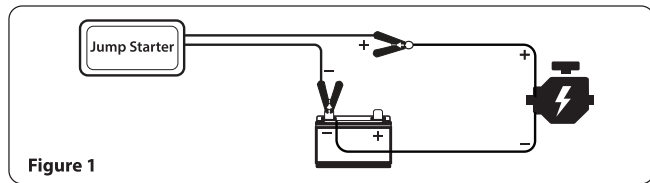

Figure 1
2. Connect the jump starter to car as shown in Figure 1.